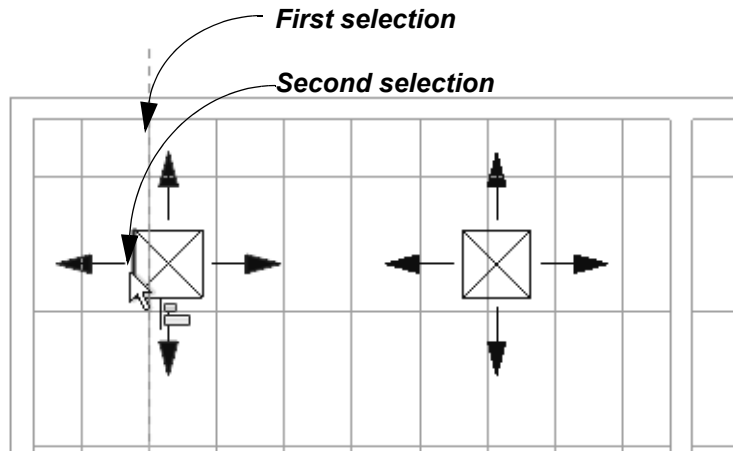

Figure 2–106
4. Select a vertical grid line and then the side of the air terminal, as shown in Figure 2–106.